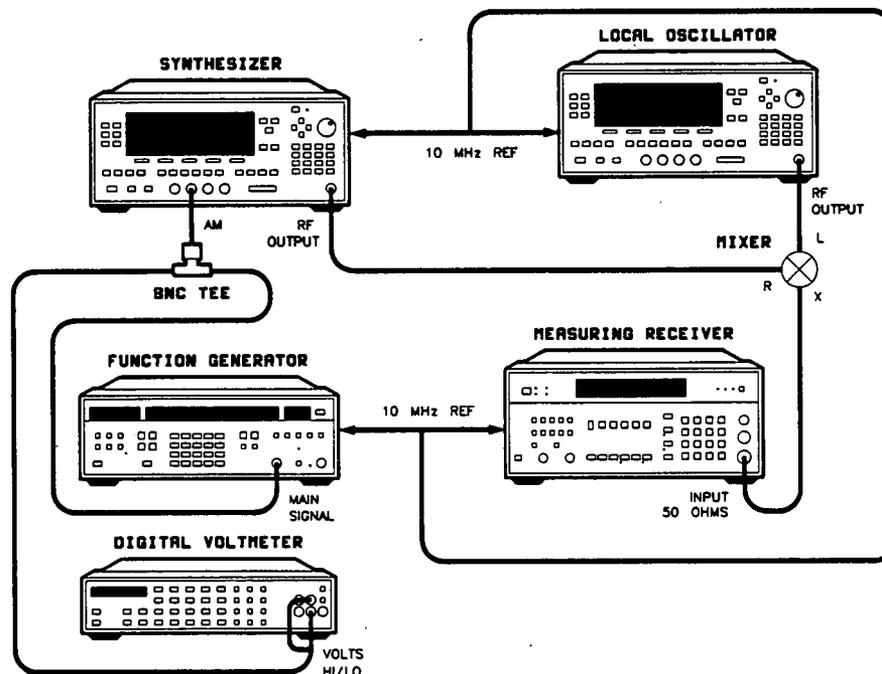

Figure 2-19. AM Accuracy Test Setup
1. Turn on the equipment shown in figure 2-19. Preset the instruments and let them warm up for at least one hour.
2. Connect the equipment as shown in figure 2-19.